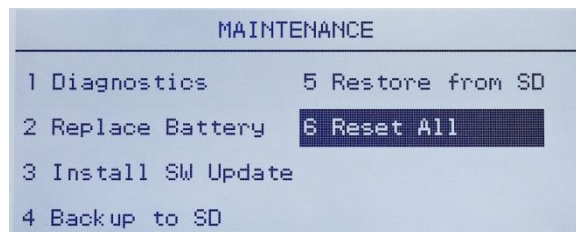

Figure 3-22: Reset All Setup Blocks
- Select Reset All under Maintenance (Figure 3-22) to restore all setup settings to factory defaults. Note that neither this, nor Scale Reset, includes the reset of type, capacity, increment, or calibration data. Only a Master Reset will reset these parameters to factory default values. A Master Reset should only be performed by a trained OHAUS CORPORATION service technician.